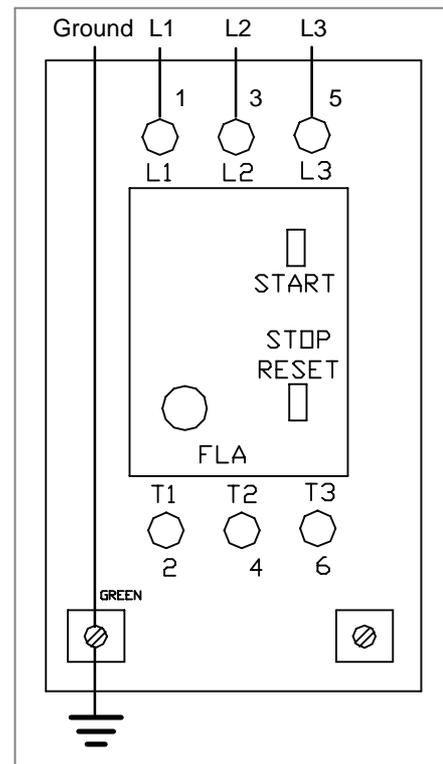

Figure 15
- Insert line cord through grip (W) and tighten nut.
- For correct three-phase motor shaft rotation, connect line phase sequence L1, L2 & L3 to terminals as shown (Figure 15).
NOTE: The motor ground wire is also attached to left terminal marked \perp (Figure 15).
- Attach ground wire to lower left terminal marked \perp (see Figure 15).